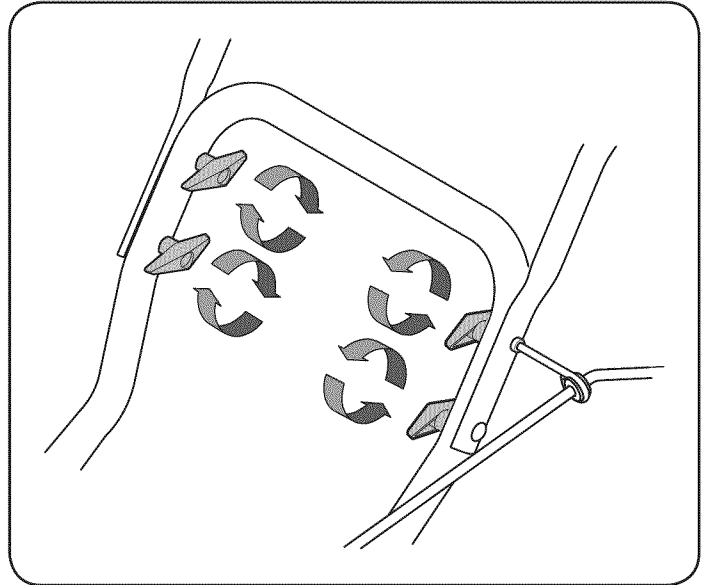

Figure 2
5. Secure the upper handle and lower handle with the two wing nuts, belleville washers, and carriage bolts removed in Step 3. Tighten the two wing nuts already installed in the upper holes to firmly secure the upper handle and support tubes. See Figure 2.